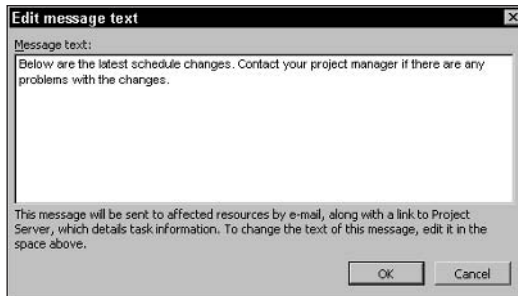

Figure 20-21: Standard e-mail notification text that Project sends.
- Send e-mail messages to all affected resources. The e-mail message is sent in addition to the notification that the resource sees in Project Web Access. In Figure 20-21, you see the standard e-mail notification that Project sends; you can modify this text by clicking the Edit message text button.